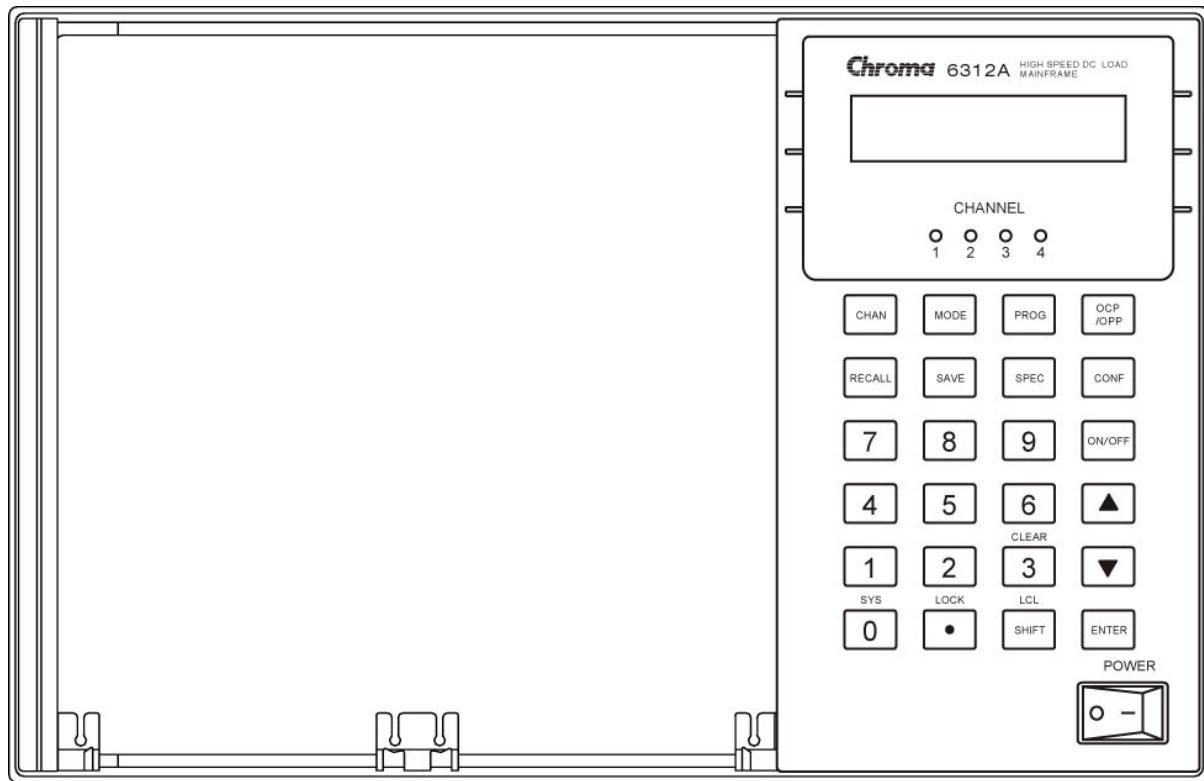

Figure 3-1 Front Panel of the Mainframe 6312A
The front panel of the mainframe includes a 16×2 character LCD display, 8 (4) channel indicators, and a keypad. All parameters of the load are set through mainframe. The LCD display also shows which function is being performed when you use the keypad. Three of the keys perform two functions. The alternative function is labeled in blue above the key. It is selected by pressing the blue **SHIFT** key and the function key simultaneously. Figure 3-1 shows the front panel of the mainframe 6312A.